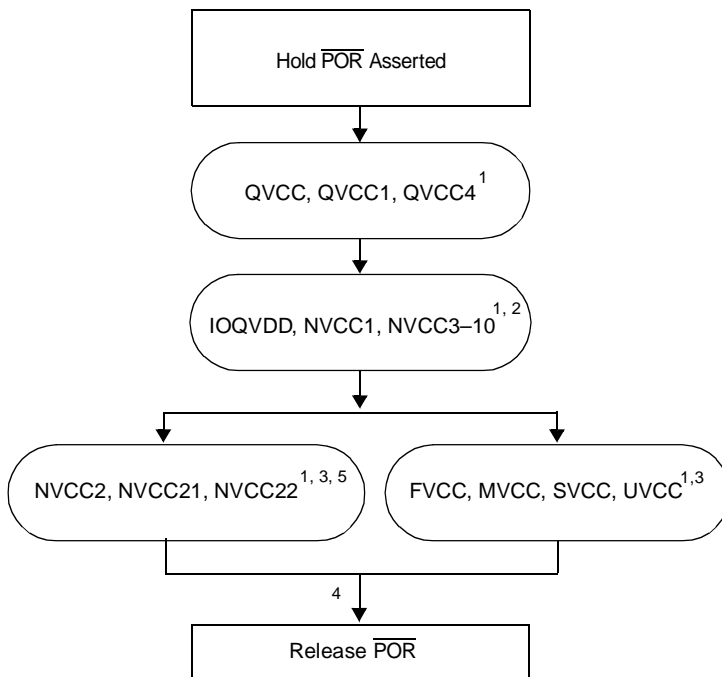
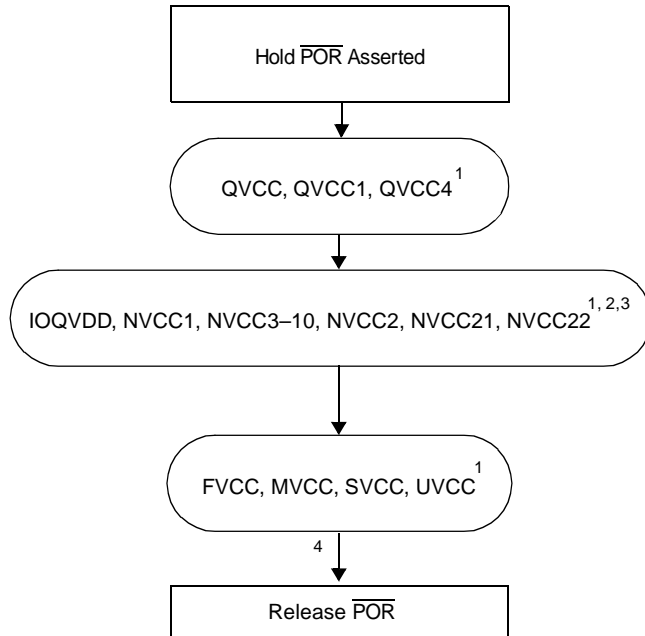

Figure 2. Option 1 Power-Up Sequence (Silicon Revision 2.0.1)
Figure 3. Option 2 Power-Up Sequence (Silicon Revision 2.0.1)
The Power On Reset ($\overline{\text{POR}}$) pin must be kept asserted (low) throughout the power up sequence. Power up logic must guarantee that all power sources reach their target values prior to the release (de-assertion) of $\overline{\text{POR}}$. Figure 2 and Figure 3 show the power-up sequence for silicon Revision 2.0.1.
- ³ Raising NVCC2, NVCC21, and NVCC22 at the same time as IOQVDD does not produce the slight increase in current drain on IOQVDD (as described in Figure 2, Note 5).